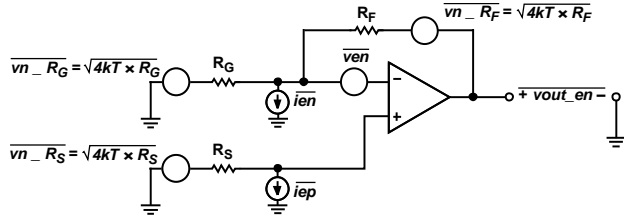

Figure 48. Noise Sources in Typical Connection
Figure 48 illustrates the primary noise contributors for the typical gain configurations. The total rms output noise is the root-mean-square of all the contributions.
*RS* is the source resistance, as shown in Figure 48.
*RF* and *RG* are the feedback network resistances, as shown in Figure 48.